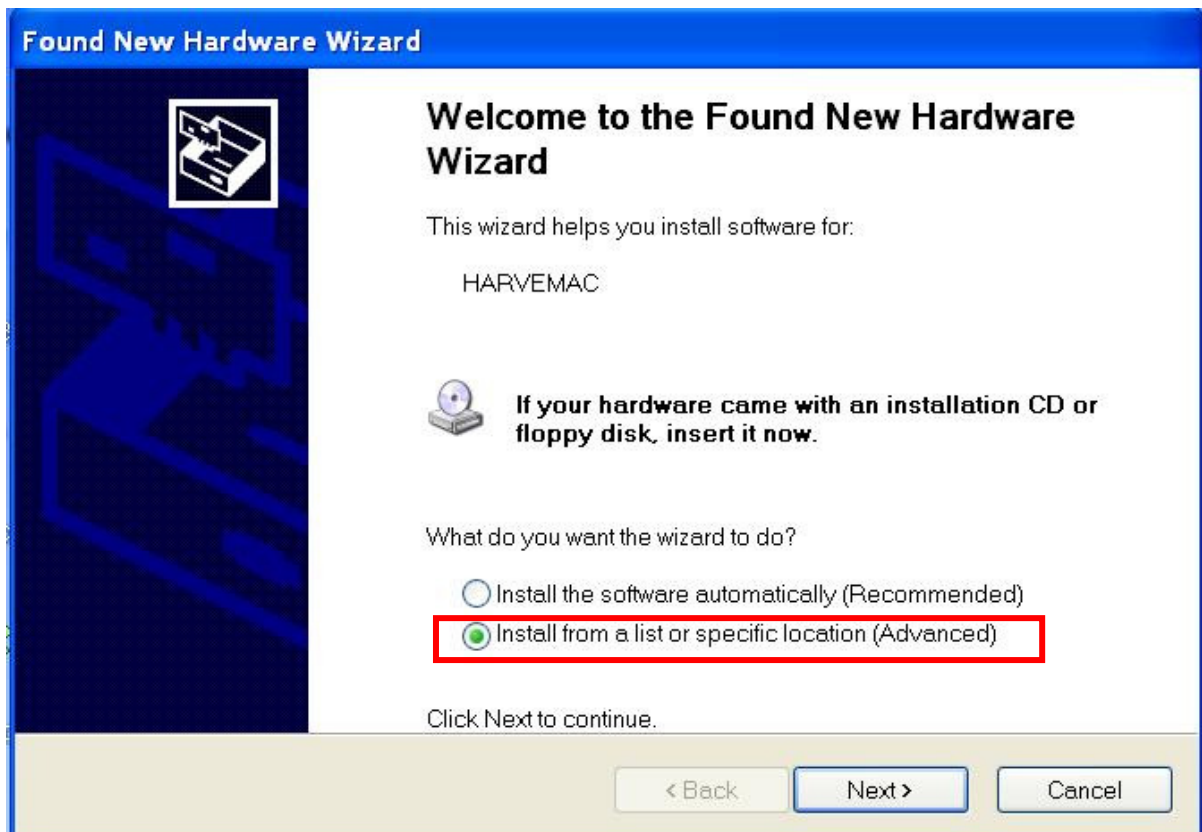

Figure 2
1. Select "Install from a list or specific location (Advanced)", as figure 2.